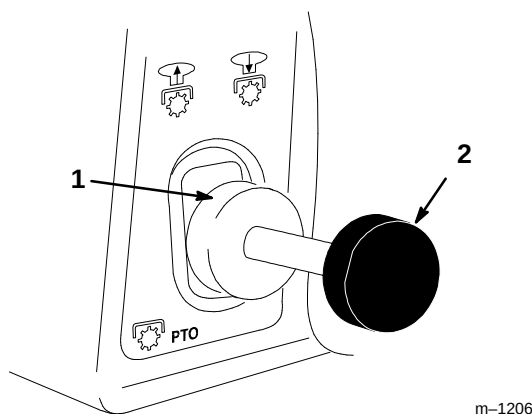

Figure 8
4. Push the PTO (power take off) to “OFF” (Fig. 8).
2. Pull the power take off (PTO) to “ON” (Fig. 8).
2. Push the power take off (PTO) to “OFF” (Fig. 8).